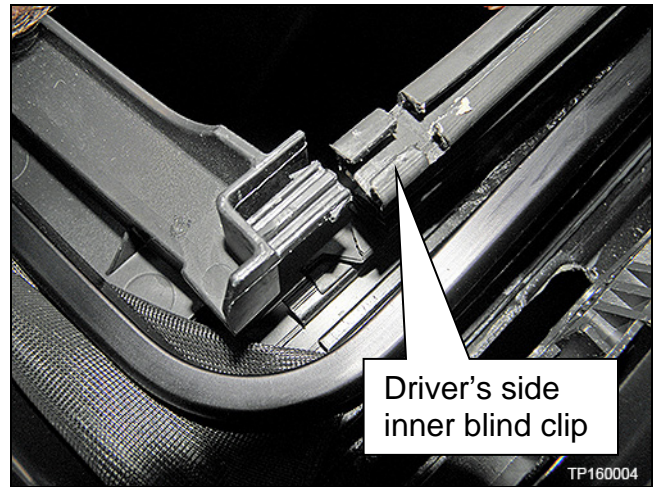

Figure 3
- Figure 3 on next page shows inner blind unclipped.
NOTE: Figure 3 shows inner blind unclipped.